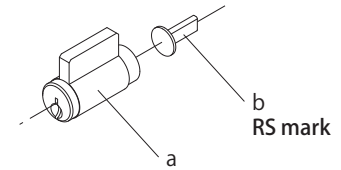

Fig. 1
1. Attach the tailpiece (b) with the RS mark to the cylinder (a). (Fig. 1)